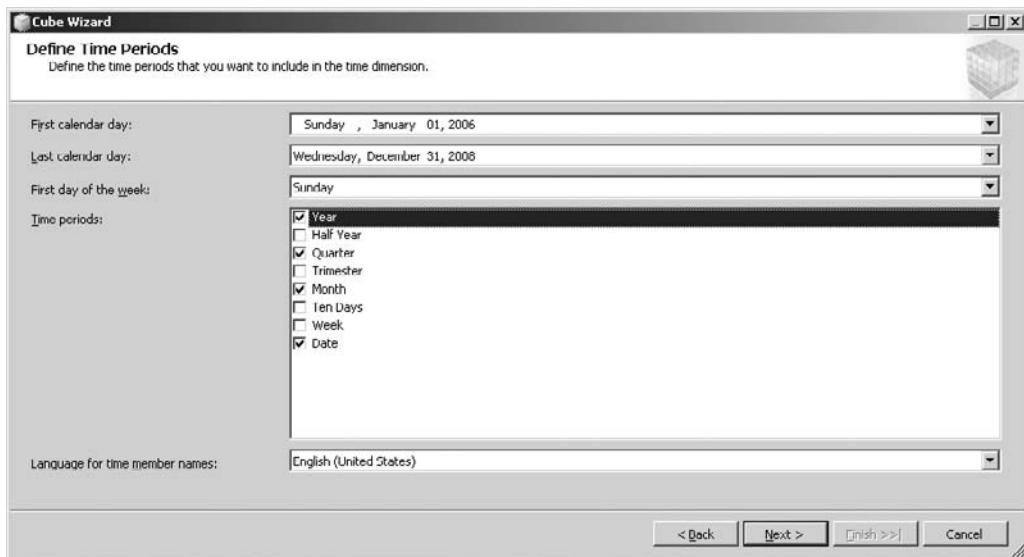

Figure 6-28 After defining the time periods for the time dimension in the Cube Wizard
36. The Define Time Periods page enables us to specify range, format, and hierarchy for the time dimension. Select Sunday, January 01, 2006 from the First calendar day date picker. Check Month, Quarter, and Year in Time periods. (Leave Date checked as well.) The Define Time Periods page appears as shown in Figure 6-28.